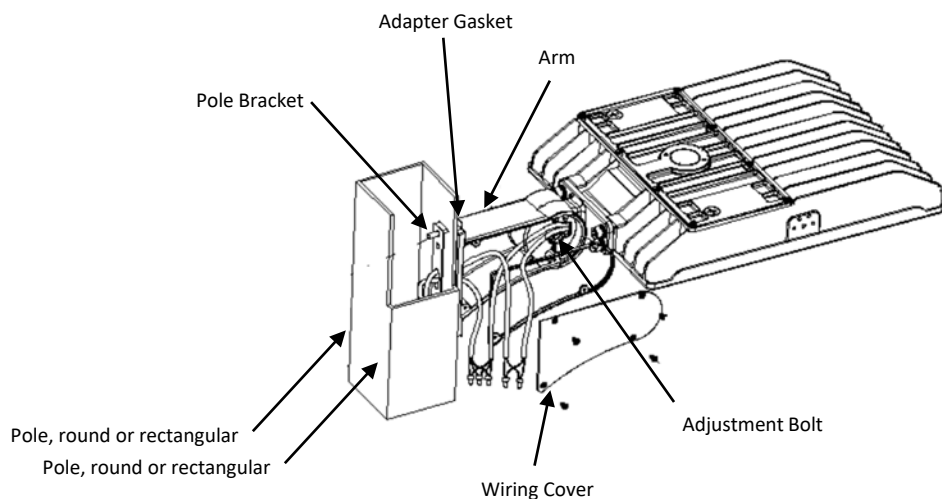

figure 10
9. Secure wiring cover to arm with gasket in between. (see fig 10)